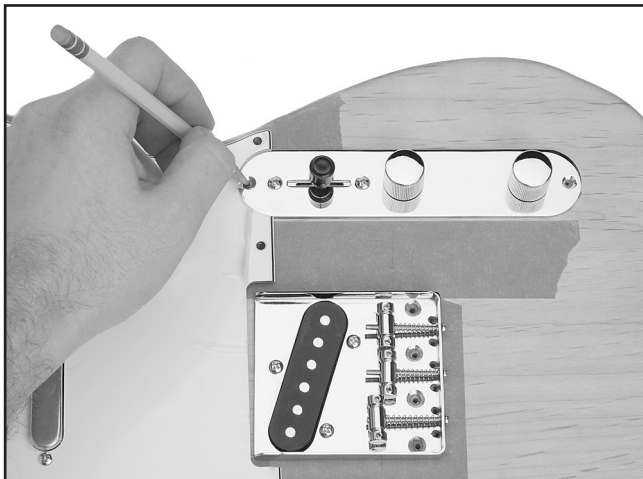

Figure 17. Marking control plate holes.
10. Mark the mounting holes for the control plate and pick guard (**Figure 17**), then remove these components, as well as the neck, bridge, and pick guard pickup.